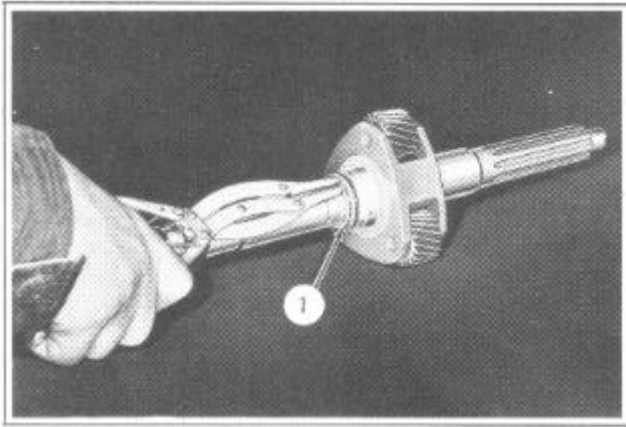

FIGURE 109
21. Remove the rear planetary carrier oil seal ring retainer snap ring (1), Figure 109.